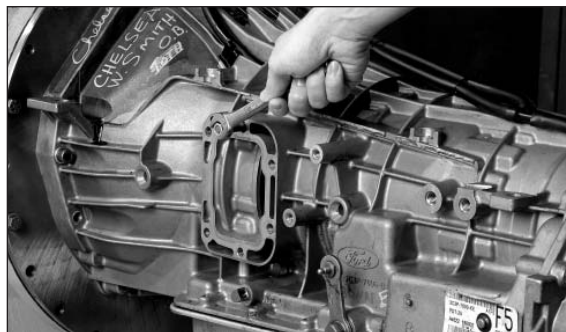

Figure 17
8. Install the stud from the stud kit in the top hole on the transmission PTO aperture pad (**Fig. 17**).